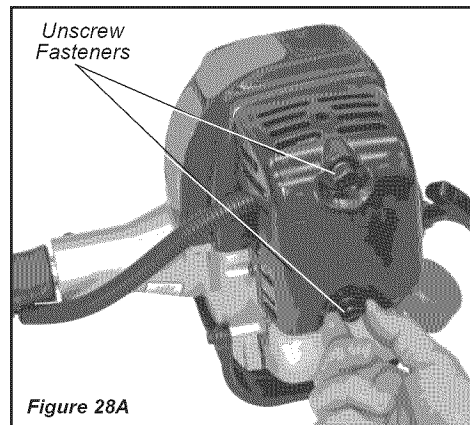

Figure 28A
- Remove the air cleaner cover by loosening the two thumbscrews. See Figure 28A.